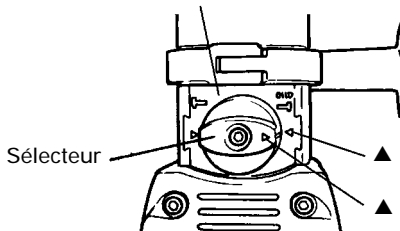

Fig. 7
(1) Rotation-percussion (Fig. 7)